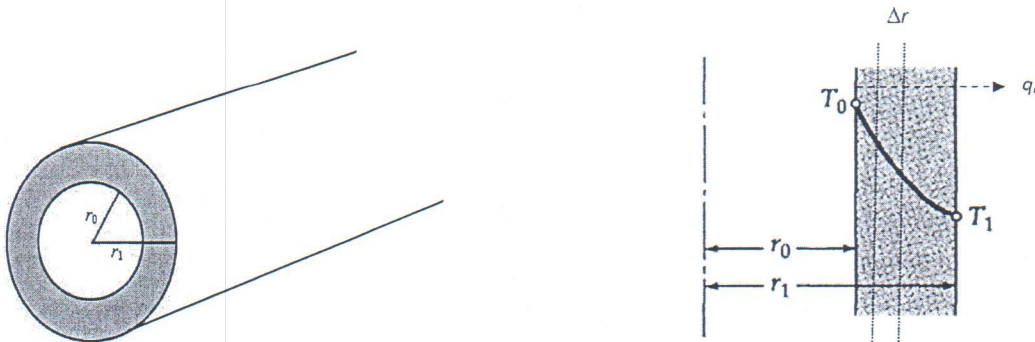

Figure Q.2: Pipe with length L and the schematic diagram showing the direction of heat flux
2. In a study of heat loss in a pipe with length L , it is required to obtain radial temperature profile across the inner wall and the outer wall of the pipe. This problem can be described as steady-state heat flux in radial direction through annular wall having inside radius r_0 and outside radius r_1 , as shown in the Figure Q.2.